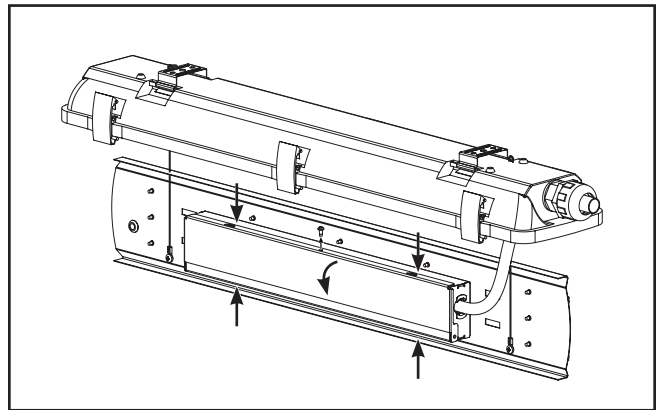

Figure 8.
9. Remove screw from center of driver enclosure door and set aside. Squeeze both sides of the driver enclosure and swing door open. (Figure 8)